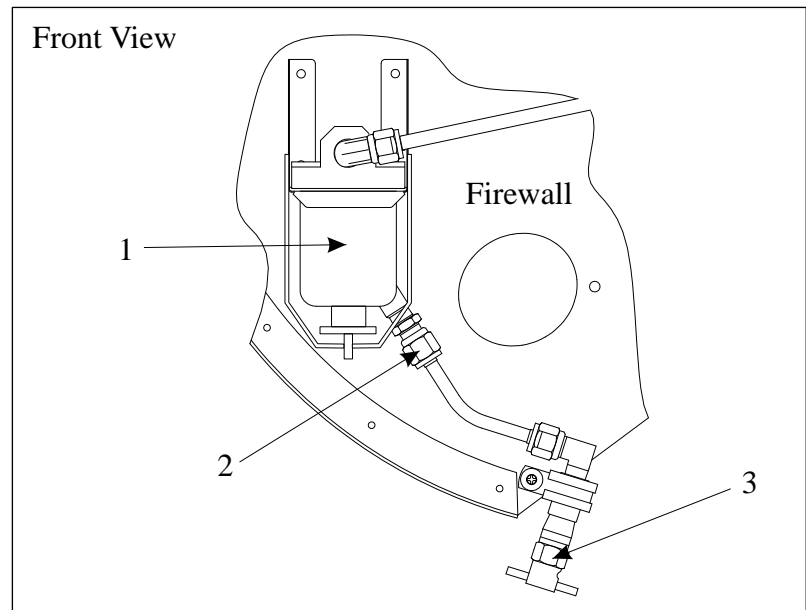
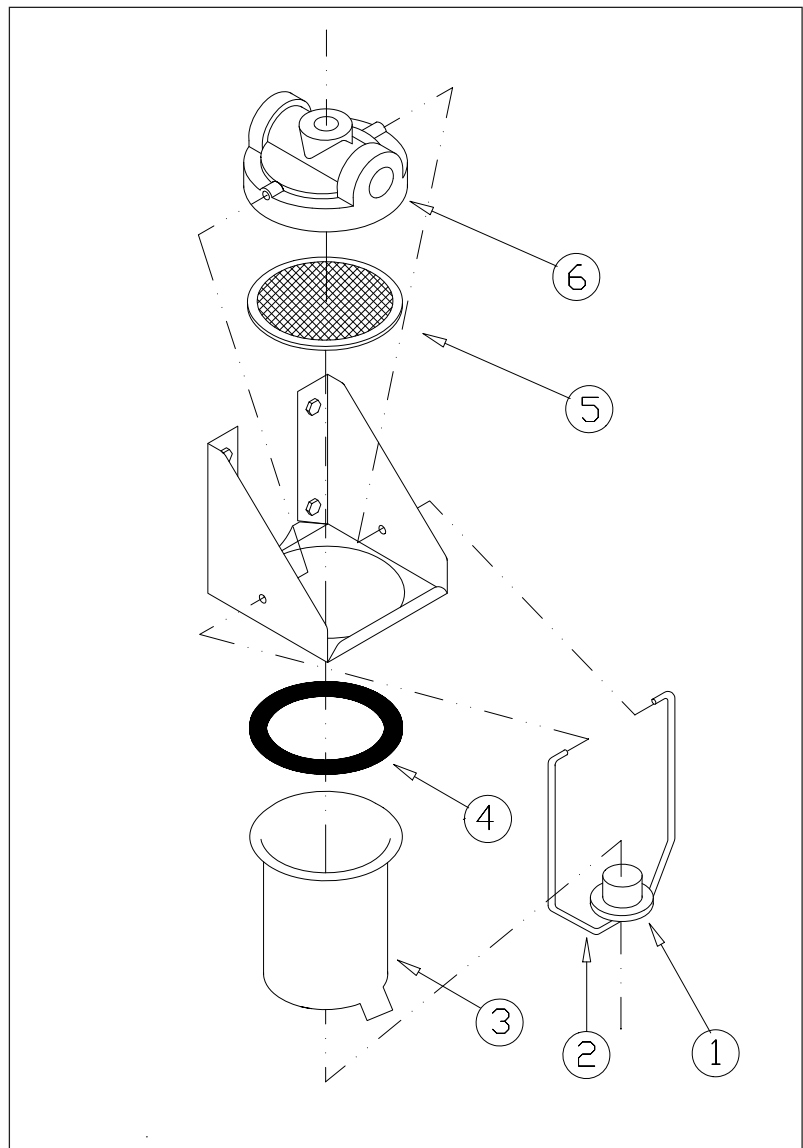

Figure 11 Gascolator and Drain
Figure 12 Gascolator Exploded View
The gascolator (1, Figure 11) is positioned in the engine compartment, mounted with a bracket on the forward side of the firewall. It is installed in the fuel line between the fuel selector valve and the electric driven boost pump.
- 4 Place a suitable container under the gascolator drain. Operate the fuel drain to empty fuel in the gascolator bowl (3, Figure 11).
- 5 Disconnect the fuel drain tube connection from the gascolator bowl (1) by loosening the coupling nut (2).
- 7 Loosen the bail nut (1, Figure 12), move the bail wire (2) to the side and remove the bowl (3).
- 8 Remove the gasket (4) and screen (5) from the strainer housing (6).
- 9 Clean and inspect the screen (5), gasket (4), bowl (3), strainer housing (6), bail wire (2) and bail nut (1). Replace any worn or damaged components.
- 10 Reinstall gasket (4) and screen (5).
- 11 Position the gascolator bowl (3) and bail wire (2). Tighten the bail nut (1) by hand, then continue tightening an additional one nut flat (i.e., 60 degrees) with a wrench. Do not over tighten.
- 13 Safety the gascolator bail nut (1) to bail wire (2) and bowl (3), bail wire (2) to the gascolator bracket with MS20995-C32 Safety Wire, using the “double twist” method, as described in FAA Advisory Circular AC 43.13-1B CHG 1, Chapter 7, Section 7, “SAFETYING”.
- 4 Loosen the knurled nut (1, Figure 12).
- 5 Remove the mounting bracket (2).
- 6 Remove the fuel reservoir (3) and the sealing ring (4).
- 7 Remove the strainer (5) and the gascolator cover (6).